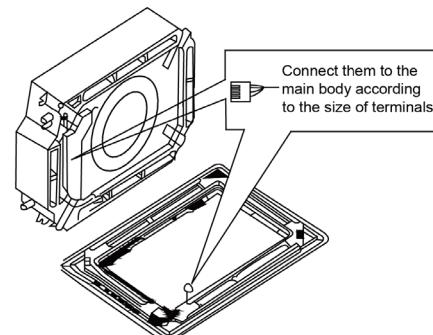

Fig.11
(9) Wire the swing flap motor as shown in Fig.11.